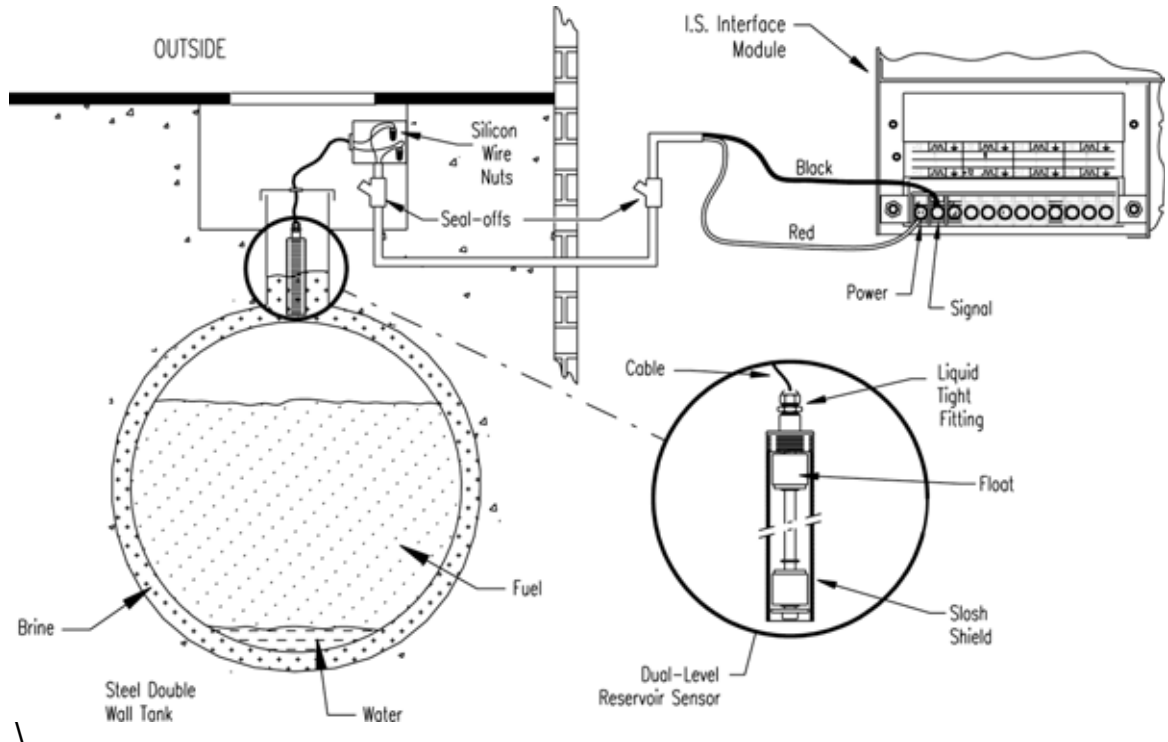

Figure 22: Dual-Level Sump Sensor Installation
- Review Figure 22 on page 65.